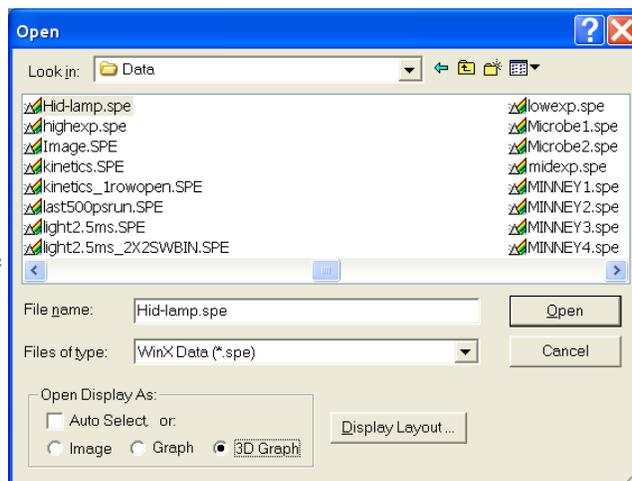

Figure 54. Open dialog
1. From the **File** menu select **Open**. The **Open** dialog (Figure 54) will appear, allowing you to select the image to be opened. The Look-In box provides a browser function so that the directory where the images are located can be easily accessed. By default the data directory is a subdirectory of WinView program directory. Files of the specified type (*the WinView/32 data type is *.spe*) in the current directory and any subdirectories are listed in the box below the directory name.